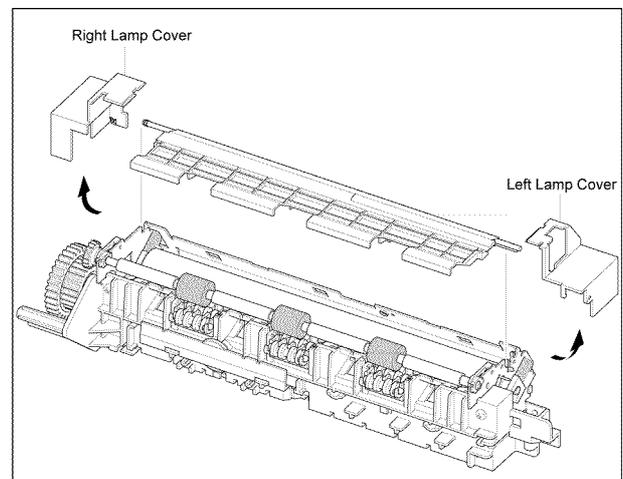

Figure 3
4. Remove the right lamp cover, left lamp cover and the fuser dummy, Figure 3.